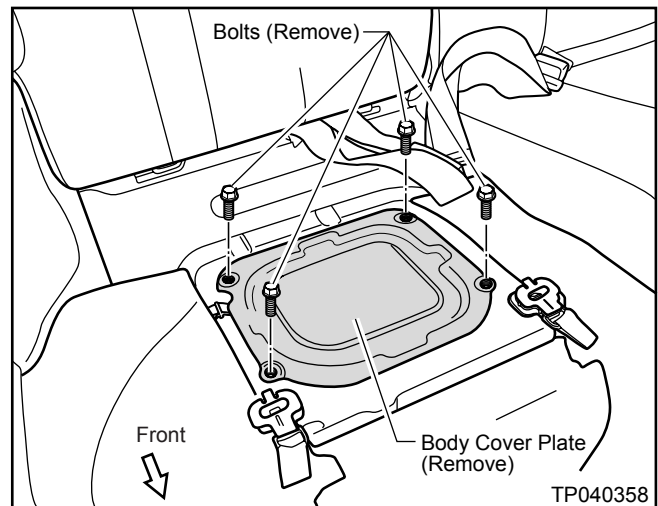

Figure 24
2. Remove four Bolts and remove the Body Cover Plate (see Figure 24).